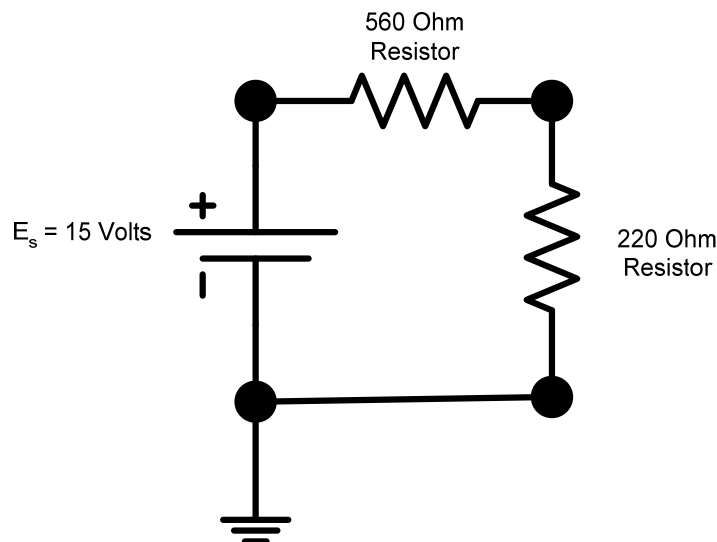

Figure 3
- On a QUAD board construct the DC series circuit in figure 3.